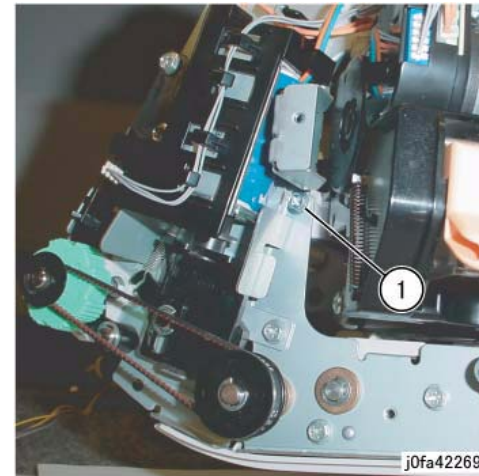

Figure 5 Removing the Self-tapping Screw
13. Remove the front Self-tapping Screw (Figure 5):